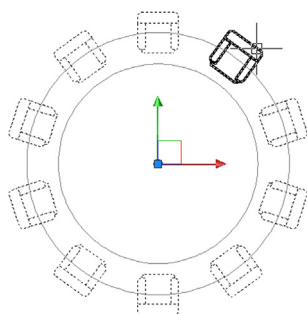

FIGURE 8.6
- **Edit Source.** This option allows you to edit and modify the source object. These changes are then reflected in the overall array. If you forget which object was the original source, it does not matter; you can pick any of the chairs and work on it. Execute the command, select the object, modify it, and when done, type in `arrayclose`. Figure 8.6 shows Edit Source in progress.